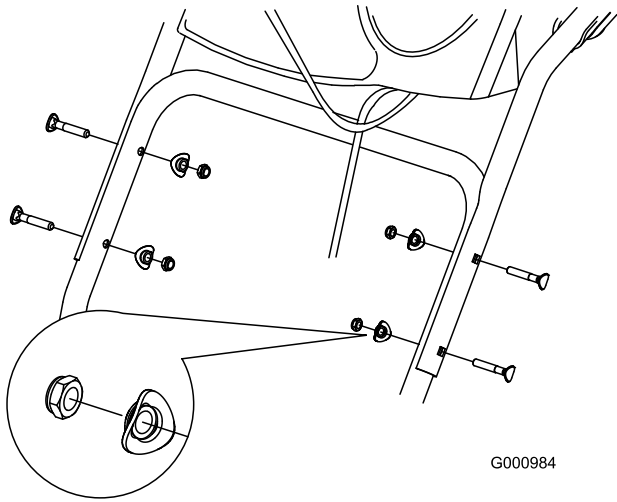

Figure 5
2. Secure the upper handle with 4 handle bolts, 4 curved washers, and 4 locknuts from the loose parts bag (Figure 5).